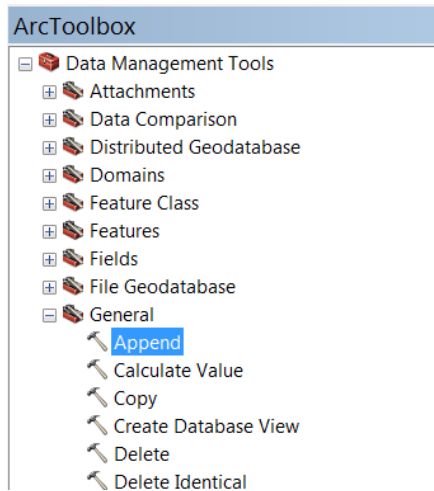

Figure C.1 ArcToolbox
1. Select the **ArcToolbox Append** tool (Figure C.1)